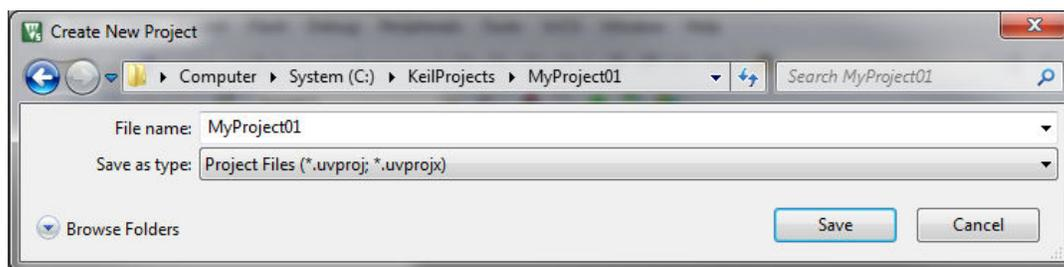

Figure 1-24. Create New Project dialog
3. Navigate to the folder where you want to create the project, for example C:\KeilProjects\MyProject01. Type the name of the project, for example MyProject01. Click Save. See Figure 1-24.